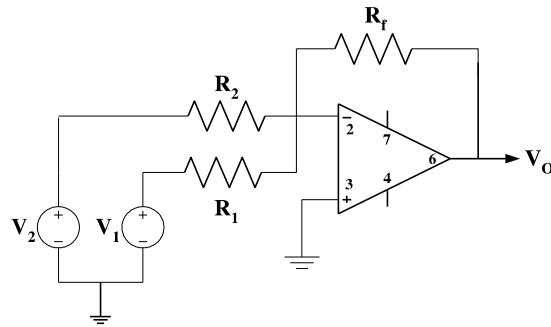

Figure 2. An adder circuit using 741 Op Amp.
1. DESIGN OF ADDER CIRCUIT: Design the adder circuit shown in Figure 2 (determine the values of the resistors) so that it implements the function  $V_o = -(V_1 + 2V_2)$ . The available set of resistances that you can use is  $100\Omega$ ,  $1K\Omega$ ,  $2.2K\Omega$ ,  $3.3K\Omega$ ,  $5.6K\Omega$ , and  $10K\Omega$ . For design safety, take  $R_f$  as high as possible. In your design, if exact value of resistance is not available, choose the nearest one.
2. Connect the circuit as shown in Figure 2 with the resistance values from your prelab design. Use a +15V DC power supply to terminal 7 and -15V DC power supply to terminal 4 of the Op Amp from the digital trainer board.
3. Simulate the circuit shown in Figure 2 in Pspice. Use  $V_1$  a 5V peak to peak, 1KHZ,  $0^\circ$  phase sine wave and  $V_2$  a 5V peak to peak, 1KHZ,  $90^\circ$  phase sine wave. Perform simulation for 4 cycles (transient analysis for 4 ms) and attach the printed output with your report.